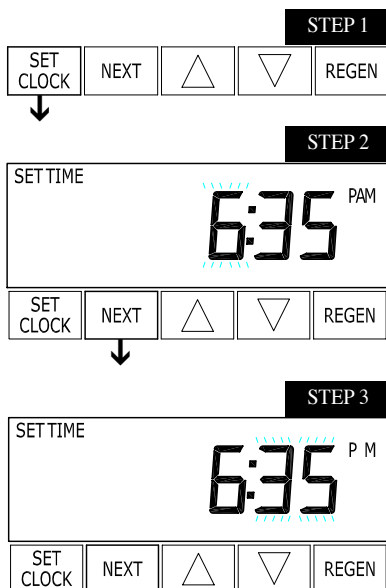

Figure 8
5. Set the time of day (figure 8, page 7).